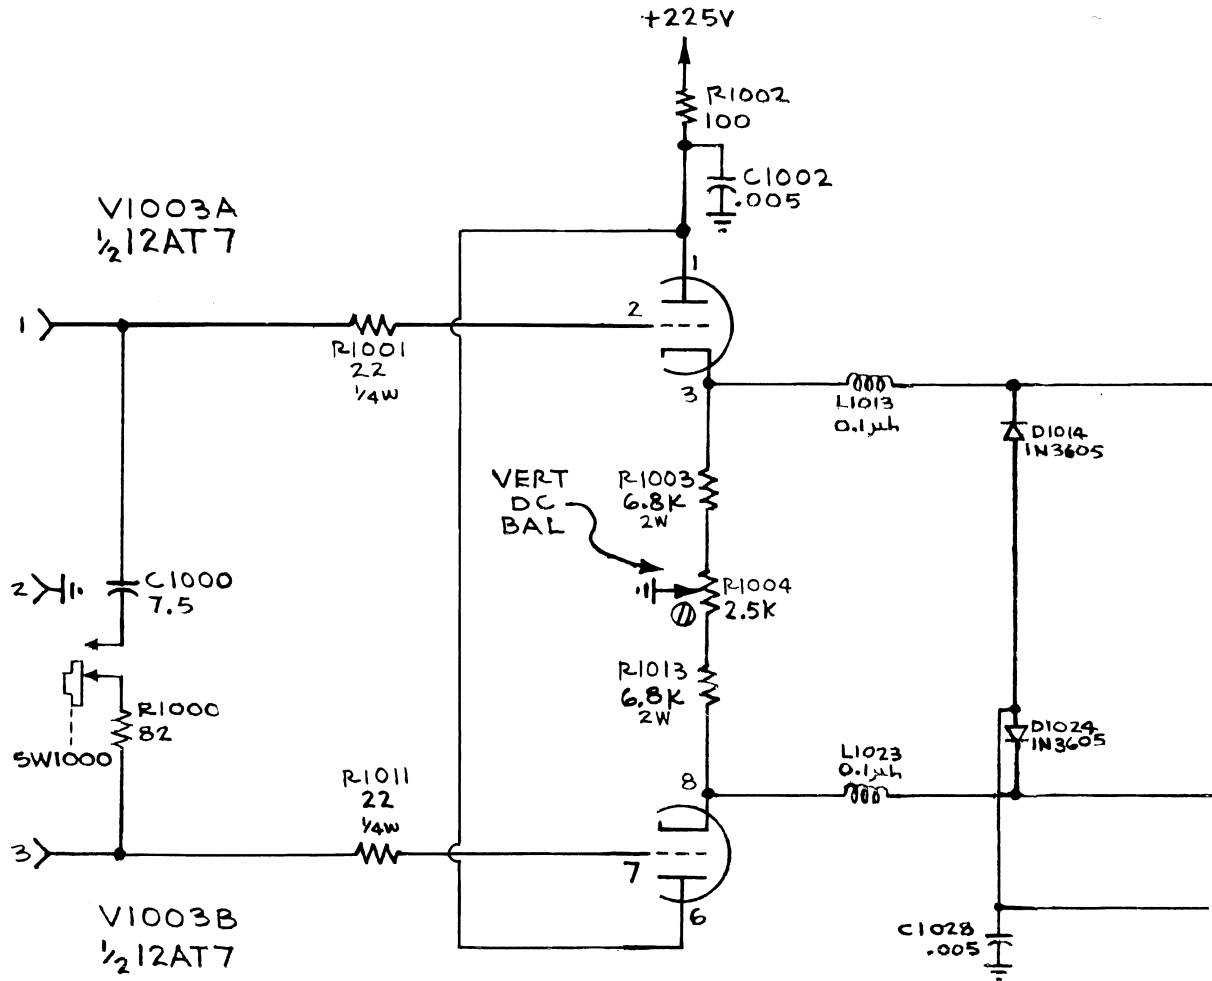

Figure 1-2
2. First stage (V1003) (Fig. 1-2)